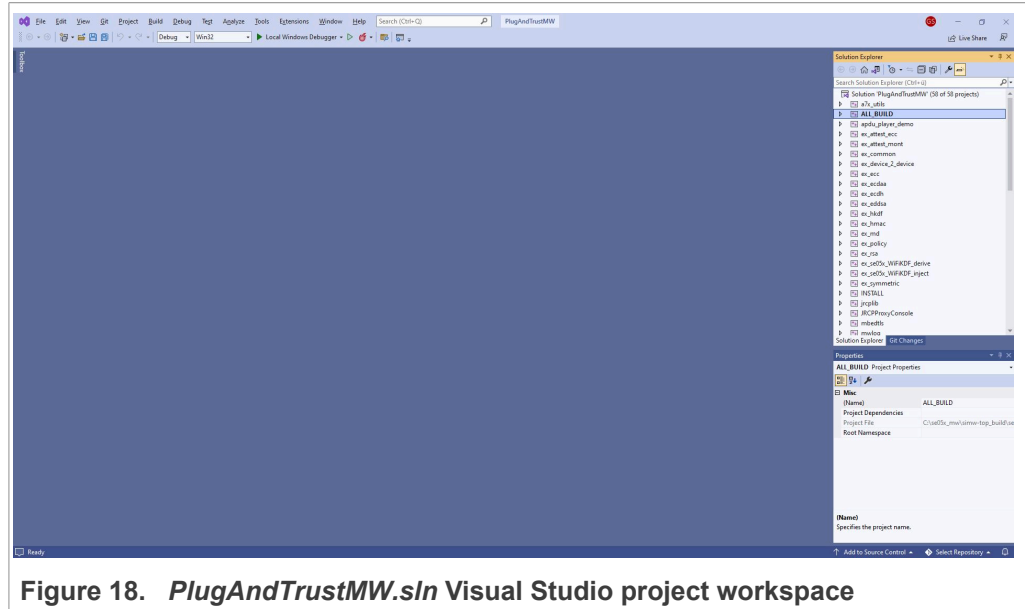

Figure 18. PlugAndTrustMW.sln Visual Studio project workspace
4. The Visual Studio IDE will open with the Plug & Trust middleware project examples included in the workspace as can be seen in Figure 18: